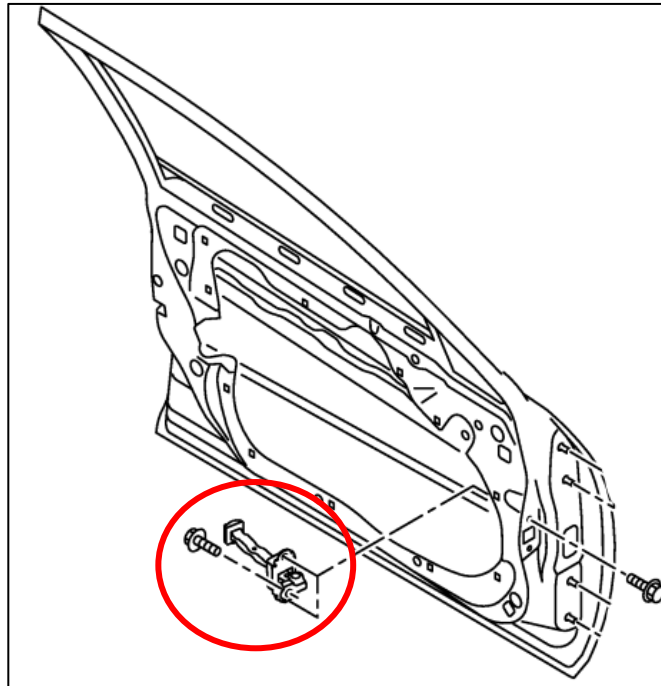

Figure 64
12. Once the bolts are removed, pull the Check Link through the Speaker hole in the door. *Figure 64.*